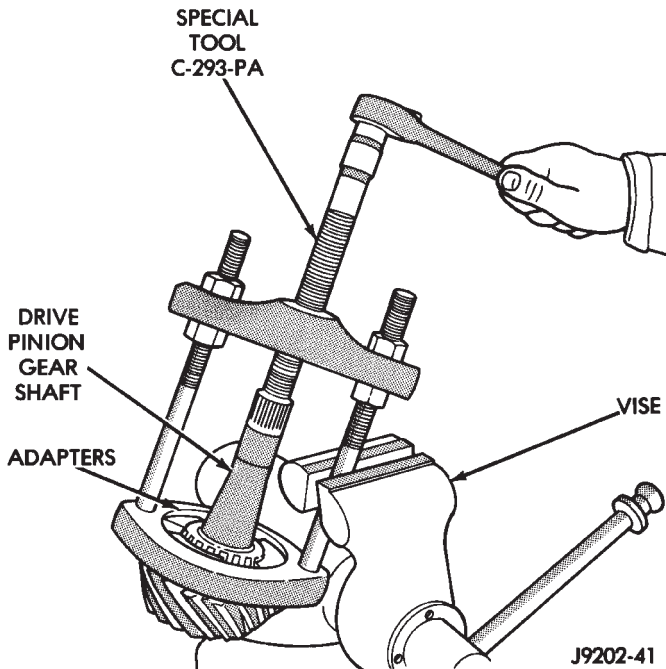

Fig. 50 Inner Bearing Removal
(12) Remove the rear bearing from the pinion with Puller/Press C-293-PA and Adapters C-293-42 (Fig. 50).